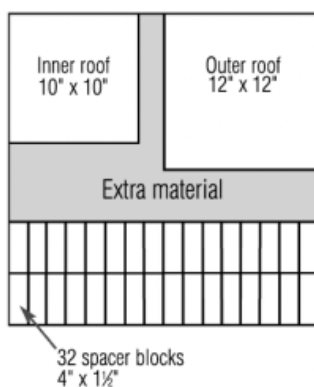

FIGURE 7
1. Measure, mark and cut out parts according to Figure 7. Dimensions must be exact for correct fit. Cut out two vent slots and four passage holes as shown.